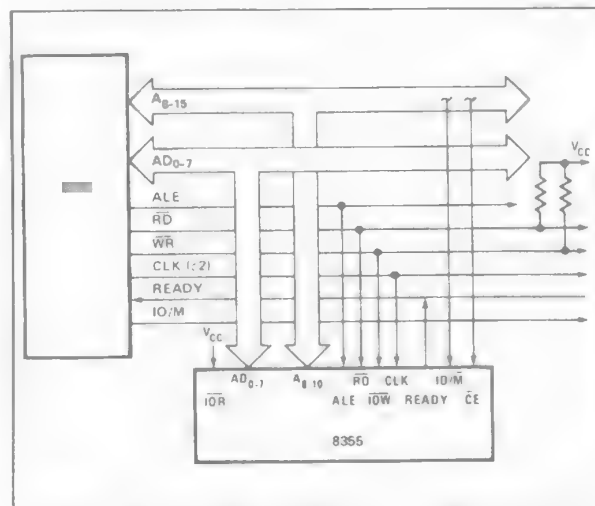

Figure 4. 8355 in 8085A System (Memory-Mapped I/O)
If a memory mapped I/O approach is used the 8355 will be selected by the combination of both the Chip Enables and $\overline{IO/\overline{M}}$ using AD_{8-15} address lines. See Figure 4.
*DATA BUS TIMING IS SHOWN IN FIGURE 4.